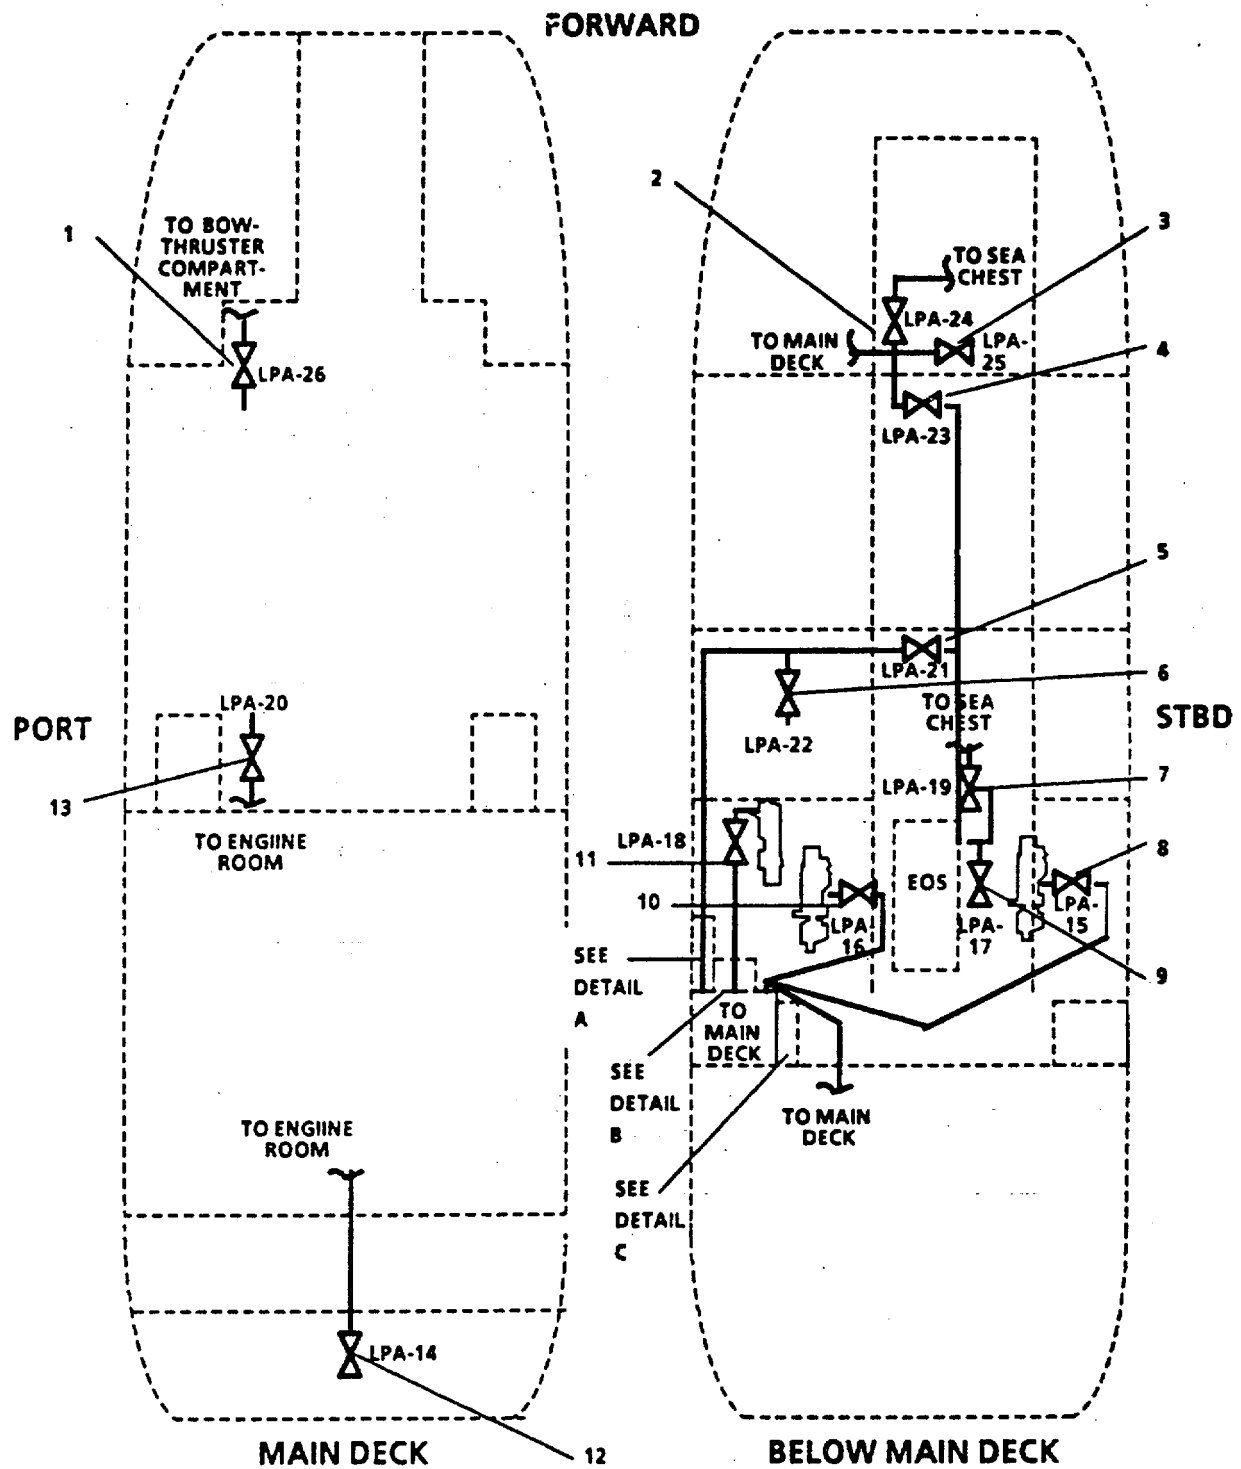

FIGURE 2-104. Compressed Air Piping System (Sheet 1 of 5)
- (1) Open LPA-8, SUPPLY TO CONTROL AIR (25, FIGURE 2-104).